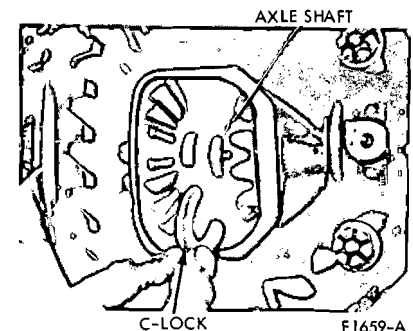

FIG. 9 Brake Drum Maximum Inside Braking Surface Diameter Marking Location
7. Inspect the brake drum and, if necessary, refinish. Brake drum **maximum inside** braking surface diameter is shown on each drum (Fig. 9). If the maximum inside braking surface diameter shown on the drum is exceeded either by wear or refinishing, the drum must be replaced. Refer to Part 12-02 for refinishing.